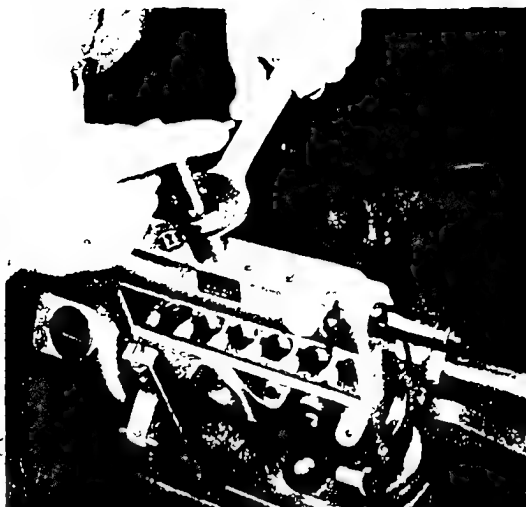

Fig 28 Withdraw delivery valve
10. Screw valve extractor into seating of delivery valve (16) and withdraw delivery valve by turning hexagon nut in a clockwise direction by means of fork spanner (Fig. 28).